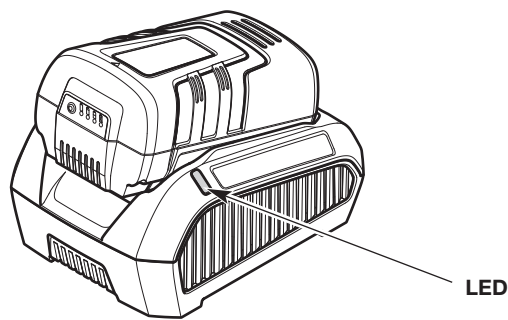

Fig. 3
1. Plug the battery charger into an appropriate power outlet. The LED should turn red (constant) (Fig. 3). If it does not: